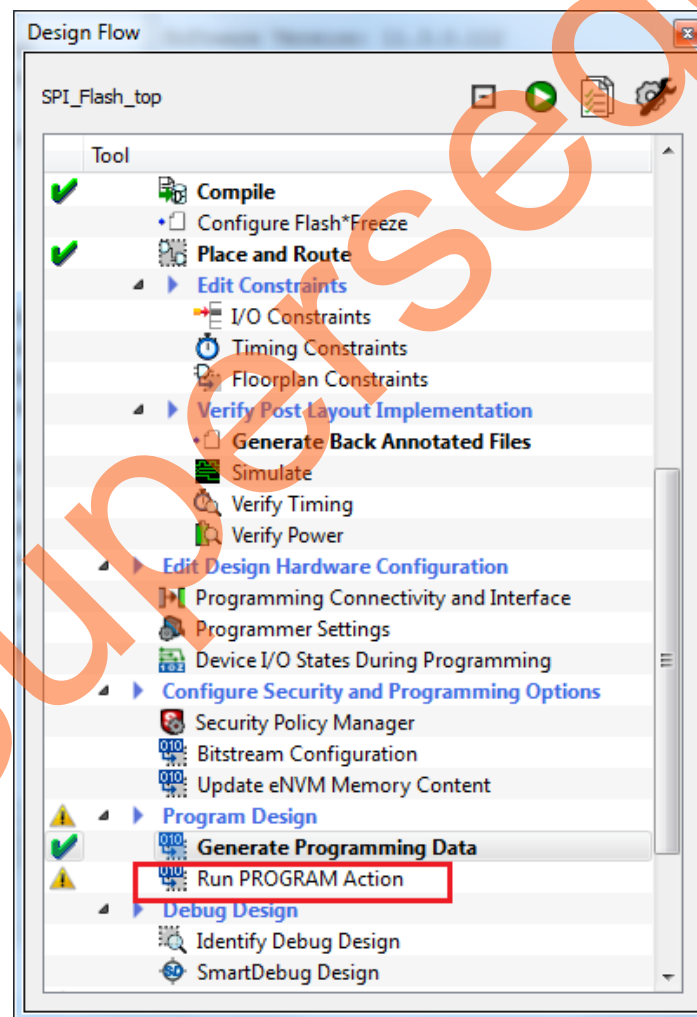

Figure 19 • Run Programming Action
5. To program the SmartFusion2 device, double-click **Run PROGRAM Action** in the **Design Flow** window as shown in Figure 19.